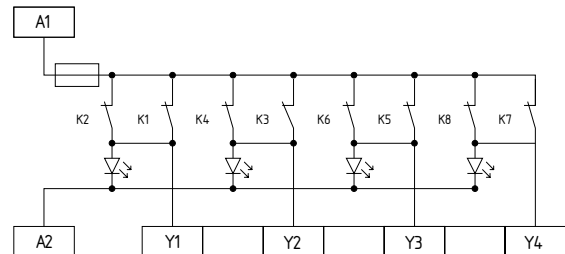

Fig. 11
**Signalling outputs (see fig. 11)**